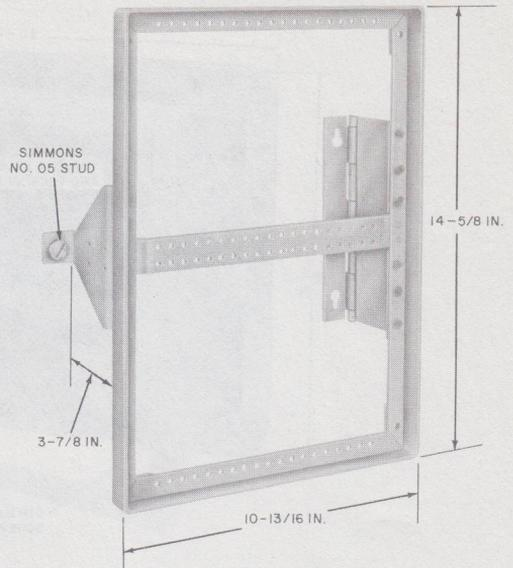

Fig. 3—31A(MD) Apparatus Mounting
2.04 The 31A (MD) apparatus mounting (Fig. 3) is a hinged metal framework approximately twice the size of a 15A apparatus mounting. It is primarily used to mount panel-type 200-series KTUs and mounts on a 173B backboard and may be enclosed with a 116A cover. The 31A apparatus mounting framework, less welded hinge and quick fastener details, is obtainable as a P-13C113 frame assembly and may be mounted singly or in pairs on 23-inch span frames with the aid of two P-35C873 mounting bars. The 31A apparatus mounting may also be mounted on a 177A backboard by using a D-179862 kit assembly.